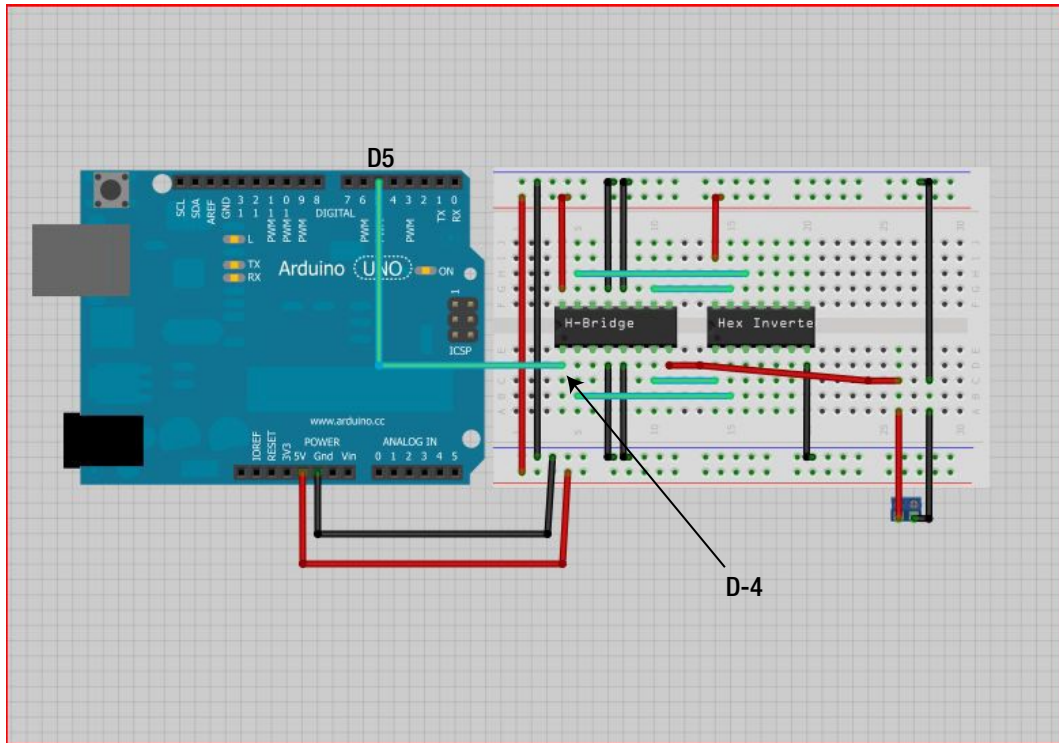

Figure 31-13. Connect the Arduino's digital pin 5 to D-4 of the breadboard
13. Connect digital pin 5 on the Arduino to D-4 on the breadboard. Figure 31-13 illustrates this process.